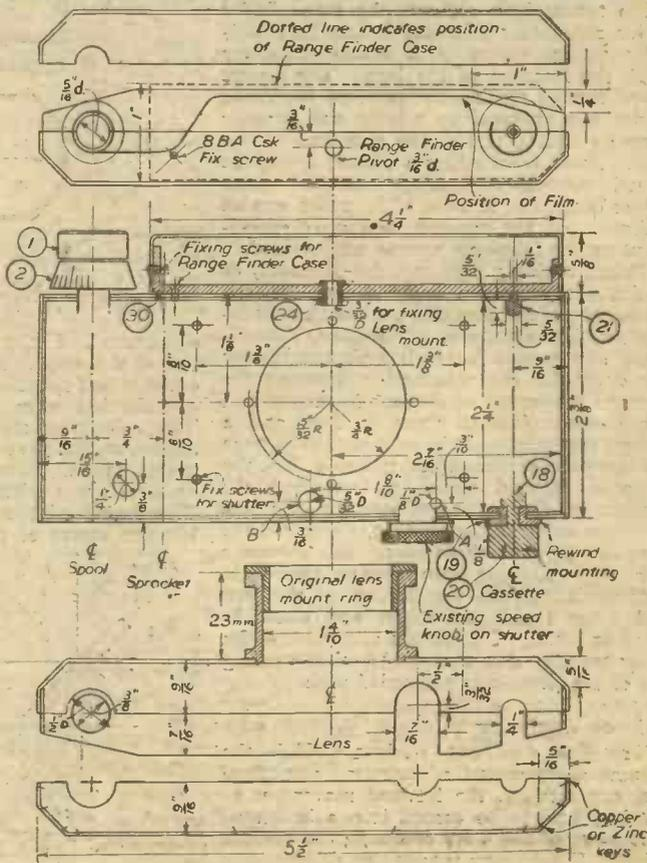

Fig. 2.—Details of camera case.
The lens is mounted so that the front face of the lens ring is the focal length of the lens, in this case 5cm. from the film plane of the shutter. The view finder is mounted on the base plate (30) inside the range finder cover, as shown in Fig. 4. The holes in the case, marked A and B (Fig. 2), are for the shutter release button and the catch release respectively.
Whilst the case is still round the block do all the marking out. Scribe a line  $9/16$ in. from both the back and the front for the depth of these two sections. On the front mark the centres for the lens hole, shutter mounting screws, film stop, cable release and button release. These last two are marked B and A respectively in Fig. 2. On the top mark a centre on each scribed line for the winder knob and cassette pivot, squaring these lines round the case for the centres for the tripod bush and rewind knob on the bottom. Also square the centre line of the lens across the top. This is the line from which the range finder assembly is set out. Now that the marking out is done, with a fine hack-saw, saw down between the scribed lines in the top and bottom and remove from the block. Don't saw unnecessarily deep into the block because it will be required again. File down to the lines and finish on a sheet of emery cloth laid on a flat surface, ensuring that the point is a fit. It is useful to have a second block of wood, this time  $4\frac{1}{2}$ in. x  $2\frac{5}{16}$ in. x  $\frac{1}{2}$ in.,
of the same material  $5\frac{7}{16}$ in. x  $1\frac{1}{2}$ in. Mark out and cut the corners to 45 deg. as indicated on Fig. 2. Then prepare a block of hardwood  $4\frac{1}{2}$ in. x  $2\frac{5}{16}$ in. x  $1\frac{1}{2}$ in. The accuracy of the case depends upon this block, so make sure that the edges are square to the face. Place the back and front of the case on each side of the block and lightly wire together with two binding wires. Tap the top and bottom into position, making sure that they are tight against the block and that the back and front project an even amount both top and bottom. There will be a gap of  $1/16$ in. at the ends, between the back and front pieces. Soft solder the joints, ignoring the gap at the ends. Clean off the top and bottom overlap with a file and very lightly chamfer the edges. With a piercing saw cut the slots for the keys where indicated on the drawing. Make these cuts about  $3/32$ in. deep and note which way they slope. They are practically useless if sloped the wrong way. For the keys use copper or zinc of a thickness that will push into the slot, and solder in position. These metals will give the necessary strengthening to the joint and have the advantage that the bit of the triangle that juts into the case can be removed with a "wood" chisel when the case is sawn through. After soldering, file these keys down flush with the surface.